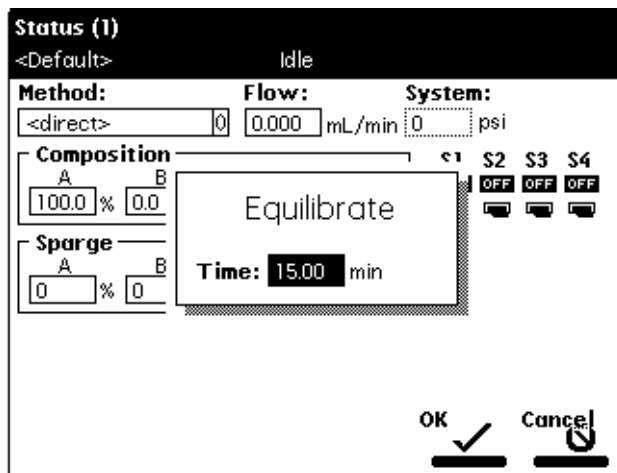

Figure 4-14 Equilibrate Dialog Box
4. Select **Equilibrate**, then press **Enter**. The Equilibrate dialog box appears (Figure 4-14).